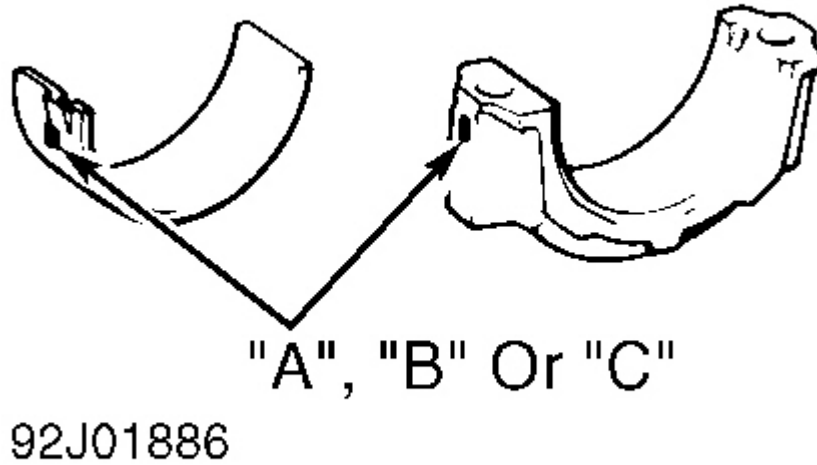

Fig. 13: Identifying Connecting Rod Cap & Bearing Size Marks
NOTE: **Crankpin bore diameter is determined by size mark stamped on connecting rod cap. See Fig. 13 .**
2. Connecting rod cap and rod bearing are stamped with size mark ("A", "B" or "C"). See **Fig. 13**. Ensure size marks on connecting rod cap and rod bearing are the same. Rod bearing thickness is determined by rod bearing size mark. See **ROD BEARING SPECIFICATIONS**.